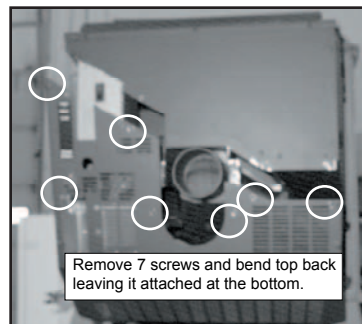

Figure 31.2
- Remove 7 screws from the back screen and pivot the top of the screen toward you leaving the bottom attached to stove. **Figure 31.2.**